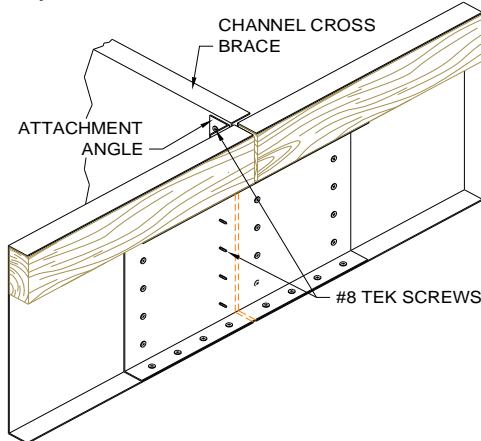

Figure 4.1
- A. Remove the upper and/or lower cross braces from the shipping skid. The lower cross brace is to be field located at the approximate center of the curb as shown in figure 4.1. Screw into place using the two (2) sheet metal angles and #8 TEK screws. Should this location cause interference with ductwork, relocate the cross brace as near as possible to the center of the curb, but avoiding the ductwork.